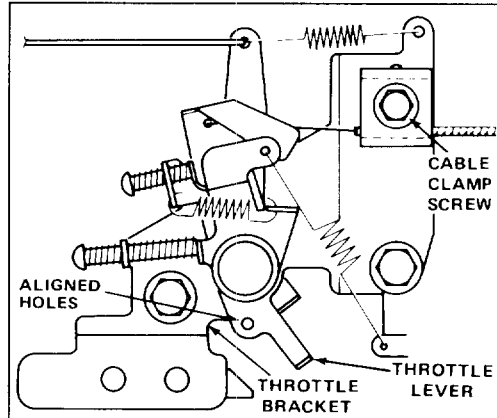

Figure 17
4. Loosen cable clamp screw until throttle cable slides (Fig. 17). Align holes in throttle lever and throttle bracket. Pull throttle cable slightly to remove any slack and tighten cable clamp screw to lock adjustment in place.